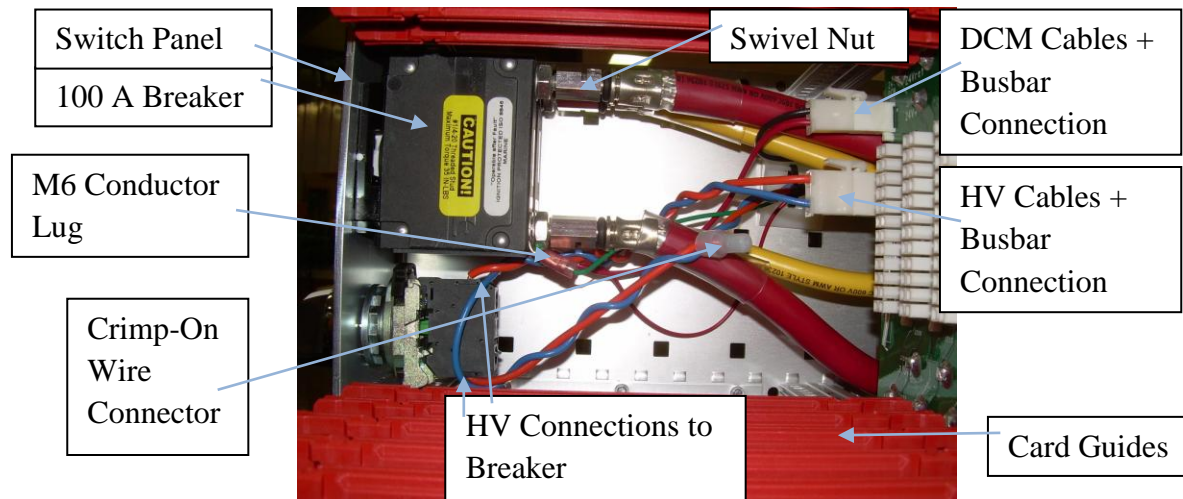

Figure 8
9. Attach the red and black DCM cables, which should now be inserted into a 2 pin connector (P#: 172165-1, Tyco), into the corresponding slot reading "DCM" on portion of the backplane closest to the front panel switches. Refer to Figure 8.